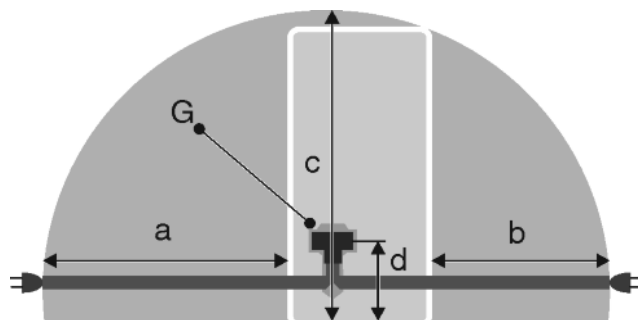

Fig. 46
- The socket is outside the back of the appliance area in the specified area *Fig. 46 (a, b, c)*.
► Insert the appliance plug *Fig. 46 (G)* into the back of the appliance. Ensure that it clicks into place.